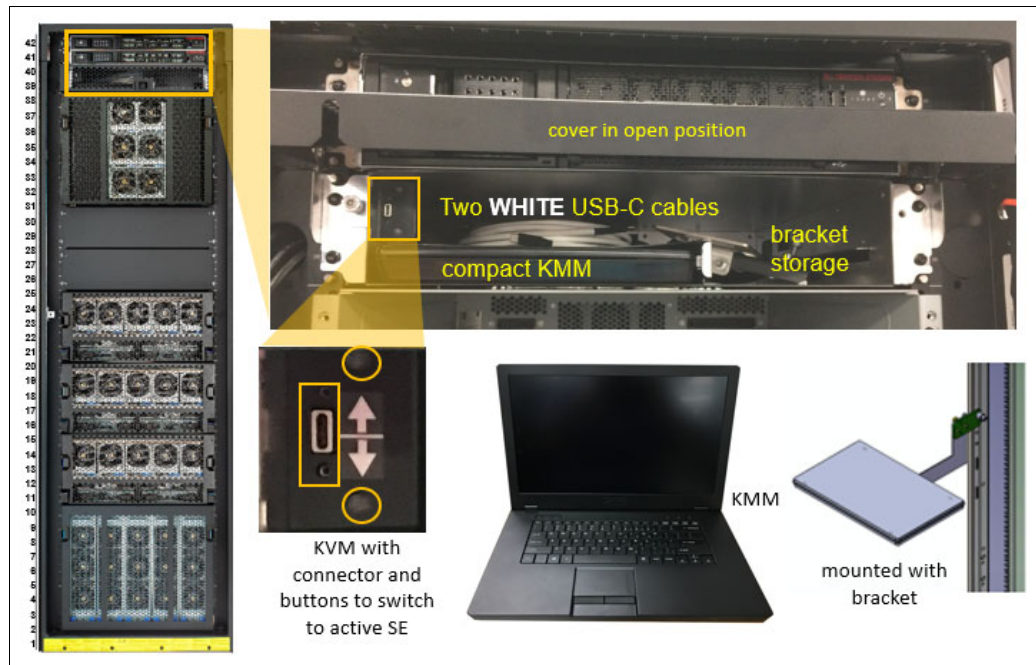

Figure 10-7 Support Element KMM device
- ▶ Switching between SEs is done by using a button that is on the KVM. It also indicates which SE is selected (see Figure 10-7 on page 418).
The SE KMM device is shown in Figure 10-7.